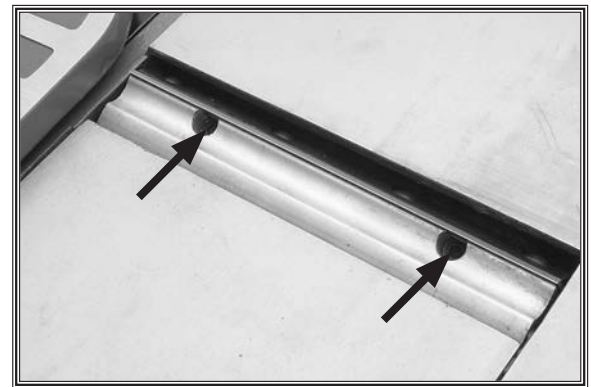

Figure 35. Knife adjustment jack screws.
6. Access (2) jack screws through holes in cutterhead (see **Figure 35**). Rotate jack screws to raise or lower knife. When knife is set correctly, it will barely touch bottom of straightedge in each of the straightedge positions. Snug clamp bolts just tight enough to hold knife in place, and repeat **Steps 5-6** with remaining knife.